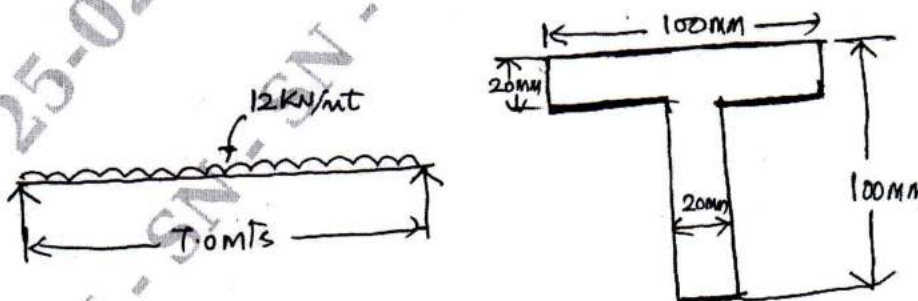

Fig. Q5 (c)
c. Determine the bending stresses across the cross section for the beam shown in Fig. Q5 (c).
b. Determine the shear stress variation across the cross section (Refer Fig. Q5 (c)) and sketch the shear stress variation. (10 Marks)